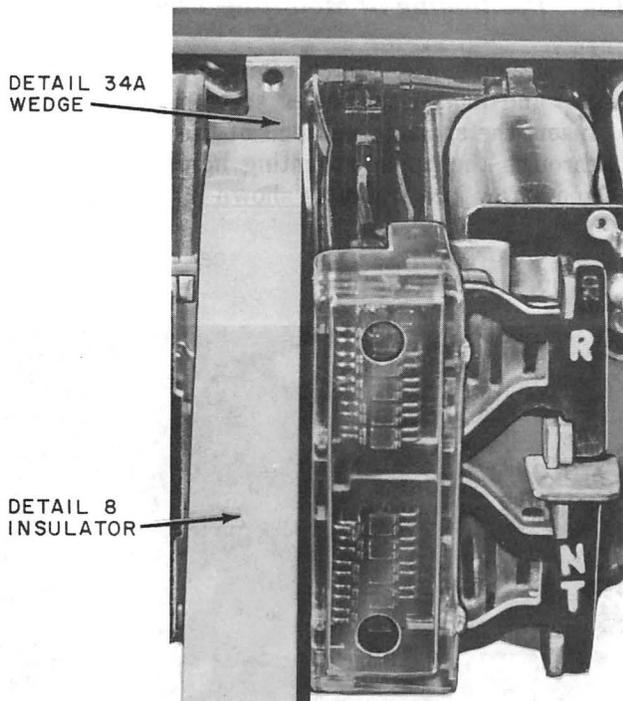

Fig. 16—Details 34A and 34B Wedges in Place With Detail 8 Insulators (34B not shown)
- (a) Place Detail 8 insulator over the winding terminals of the relay to the left of the relay being repaired. Place with the 1/8-inch long leg in an up-position on the upper terminal and in a down-position on the lower terminal. See Fig. 16.
- (b) Screw the Detail 5 wedge inserter into the Detail 34A upper wedge. With its wide end down, force the wedge between the clamping spring of the relay being repaired and the core of the relay to its left. See Fig. 16. After the wedge is firmly in place, unscrew the wedge inserter.
- (c) Screw the wedge inserter into the Detail 34B lower wedge and with the wide end up, insert the wedge using the procedure followed in inserting the upper wedge. See Fig. 16.